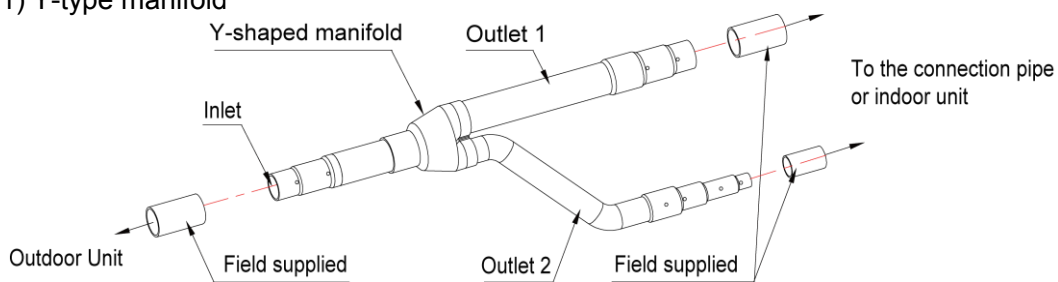

Fig.32
3) Joints at indoor and outdoor units should be wrapped with insulating material and leave no clearance between pipe and wall. See Fig.32.